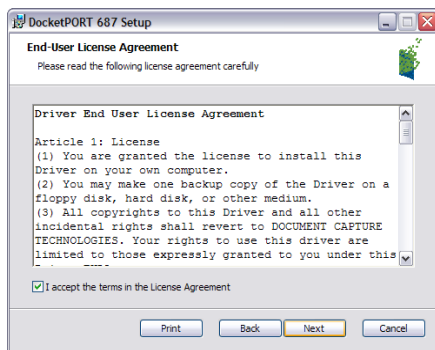

Fig. 3
- e) Check the EULA accept box then click the “Next” button (Fig. 3) above.